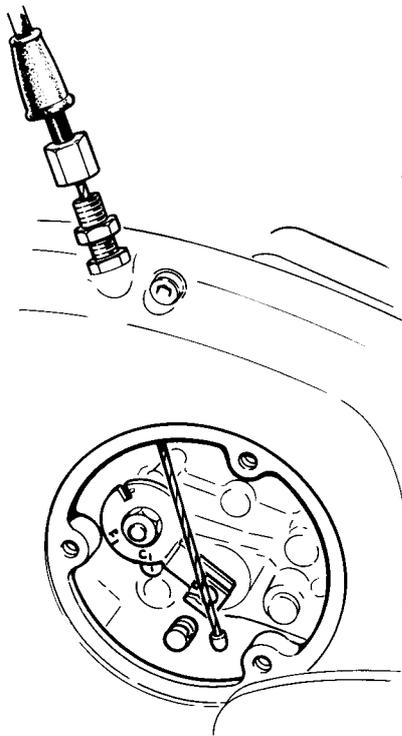

Fig. G6. The Oil Metering Unit Cable.
2. Unhook the cable from the oil metering unit operating lever (Fig. G6), being careful not to lose the nylon roller on the nipple. Remove this and keep in a safe place until required for assembly.
Adjustment of oil metering unit cable after refitting (Fig. G6)